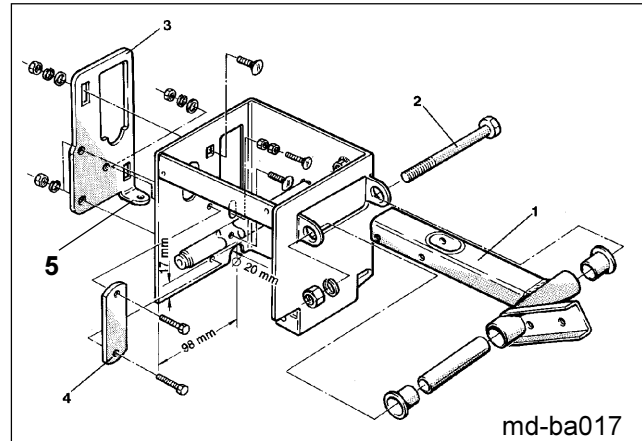

Fig. 18.44
- Remove lever (Fig. 18.44/1) after slackening the hex. bolt M 10 x 100, DIN 931 (Fig. 18.44/2) .
- Mount stop plate (Fig. 18.44/3) from the outside to the switch box.
- Grind gap for the lug (Fig. 18.44/5) according to drawing Fig. 18.44 into the wall of the switch box.
- The flat iron bracket (Fig. 18.44/4) is used for mounting the fixing parts of the hydraulics and it should be bolted to these parts later on.